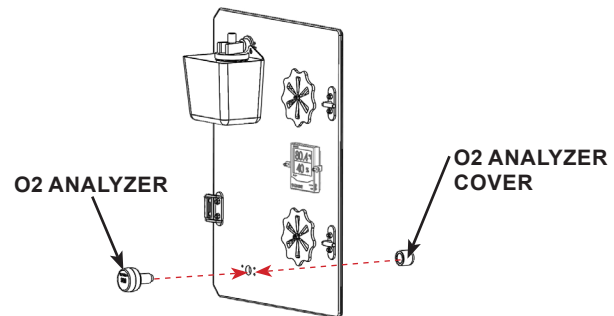

FIGURE 3.5 - O2 Analyzer Installation
**STEP 2:** Insert the analyzer through the hole and secure with the cover, thread onto the analyzer, hand tighten. See FIGURE 3.5